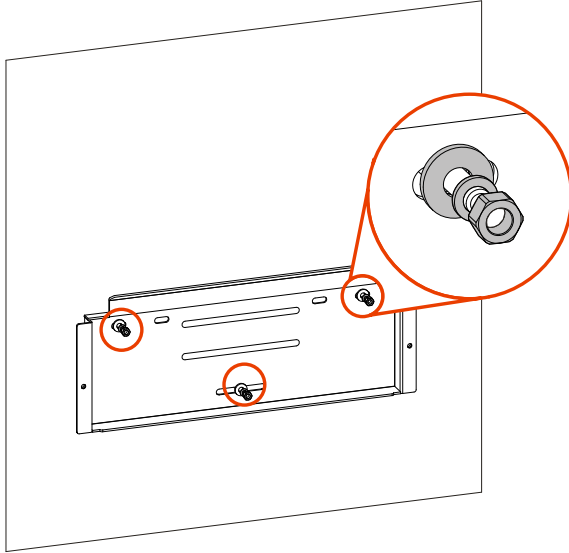

Figure3-5 Fix the installation holder on the wall
- Step 4 As shown in Figure3-5, put the installation holder in the prepared expansion bolts with the flat washer, spring washer and nut and fasten nuts clockwise by socket to fix the installation holder on the wall.